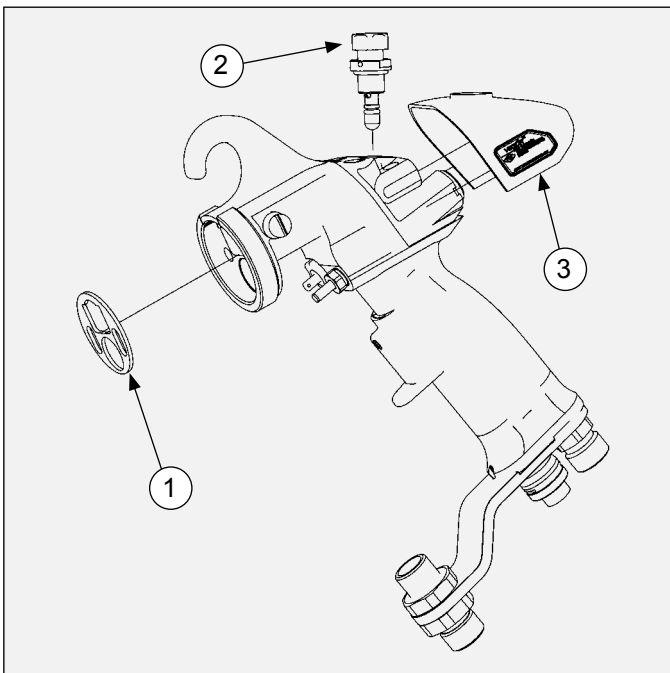

Figure 31: Air Valve and Rear Cover Removal
- Unscrew needle/electrode from shaft and slide the male chevron adapter, the chevron seals and female chevron adapter off the shaft (see Figure 31).